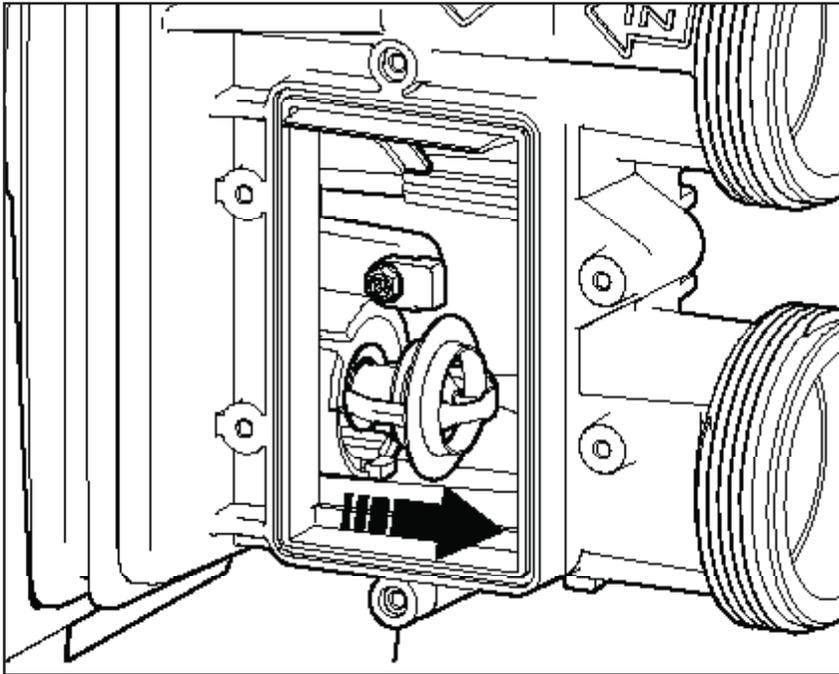

Figure 4. Remove TRV
9. Slide the thermal regulator valve (TRV) sideways out from under the locking tab and remove it (see Figure 4).